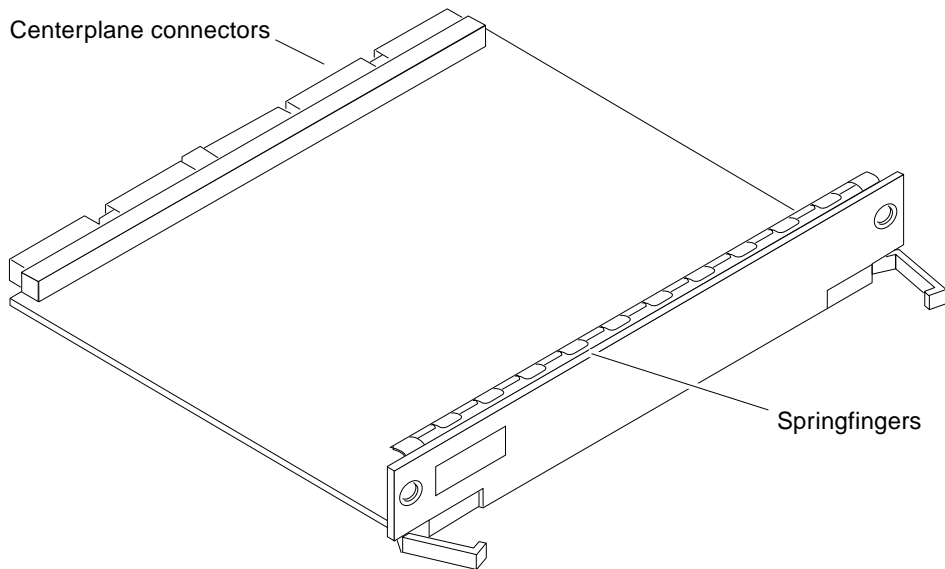

FIGURE 5-2 Load Board (Enterprise 6500 Systems Only)
- Empty slots in Enterprise 6500 systems must have a load board installed (FIGURE 5-2).